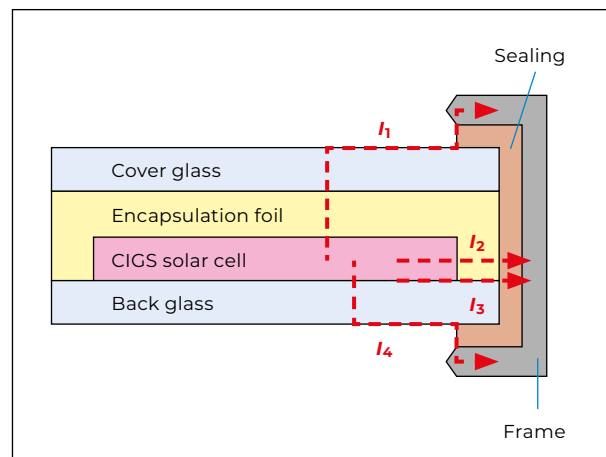

Fig. 10 – Leakage currents in a PV cell.
- Work with the new smart inverters & related external equipment, and withstand the reverse potential applied during night-time to the panels (see fig. 10, page 5).